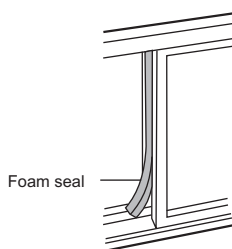

Fig.15
5. Cut the foam seal to an appropriate length and sealing the open gap between the top window sash and outer window sash. Show as in Fig.15.